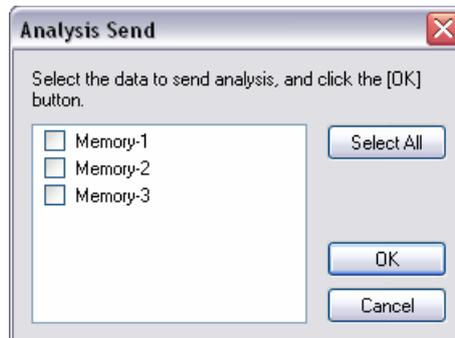

Figure. 4.10 [Save As...] dialog box
- (1) Click [Analysis Send] from the [File] menu or click  in the [Spectra Measurement] window. The [Spectra Analysis] window is automatically opened.
- (2) When [Cycle Times] is selected, the following dialog box appears after clicking [Analysis Send] (in Fig. 4.10, Cycle Times is set to 3).
- (3) Insert checkmarks in the boxes of Fig. 4.10 and click the <OK> button. The selected data are transferred to [Spectra Analysis]. All the data can be transferred to [Spectra Analysis] by clicking <Select All>.
**Note :** If sample data is not saved (see [Save Data]), a filename is automatically assigned such as “Memory”. For the case [Cycle time] when is specified, the filenames are assigned as “Memory-1”, “Memory-2”, “Memory-3”... (see Fig.4.10). When sample data is saved, the filename can be renamed.